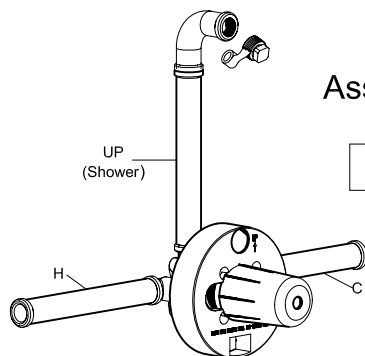

Fig .2
- Position valve body correctly in wall (see Fig. 2 ).